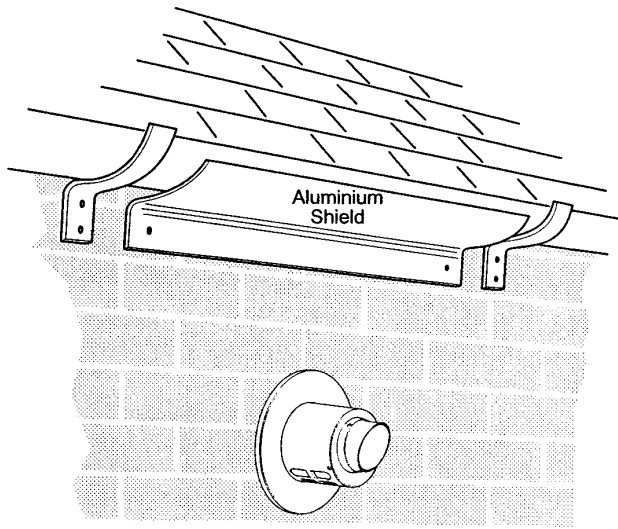

Fig. 16
2. If the terminal is fitted within 1 metre (39 in) of a plastic gutter, within 500mm (19½in) of a painted eave or a painted gutter, an aluminium shield of at least 1 metre (39 in) long should be fitted to the underside of the gutter or painted surface. An air space of 5mm ($\frac{3}{16}$ in) should be left between shield and gutter (Fig. 16).